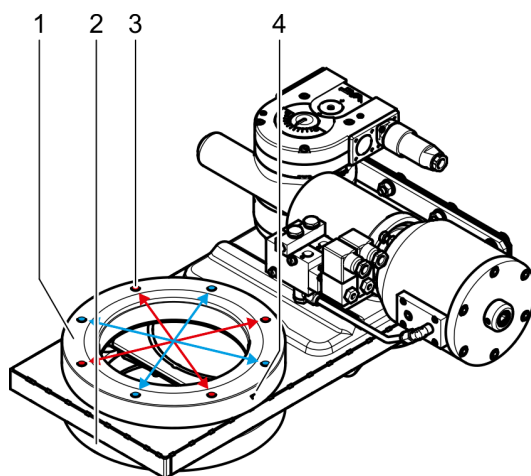

Figure 4-1
see (1) and (2) according to «Figure 4-1» on page 13 .
4. Mount four screws (3) according to «Figure 4-1» evenly in crosswise order until the seal touches the sealing surface.